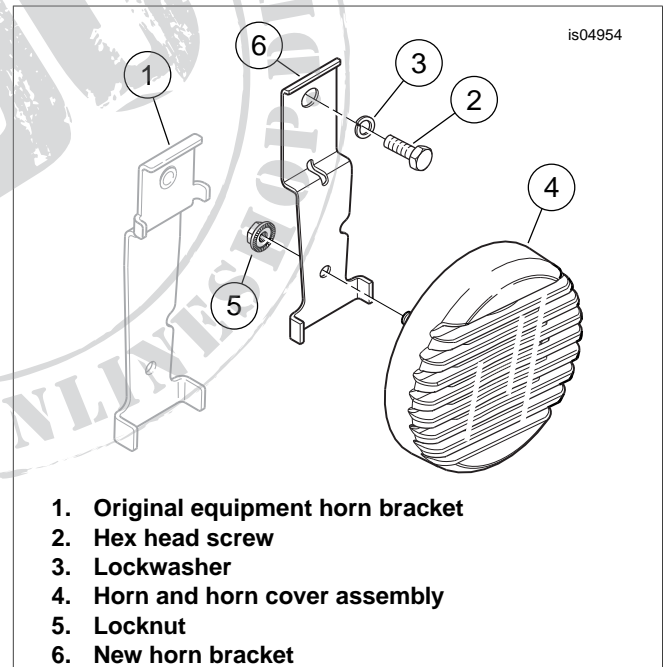

Figure 1. Horn Installation
2. See Figure 1. Remove the hex head screw (2) and lockwasher (3) to detach the original equipment (O.E.) horn bracket (1) from the vehicle.
4. Remove the locknut (5) to detach the horn and cover assembly (4) from the bracket.